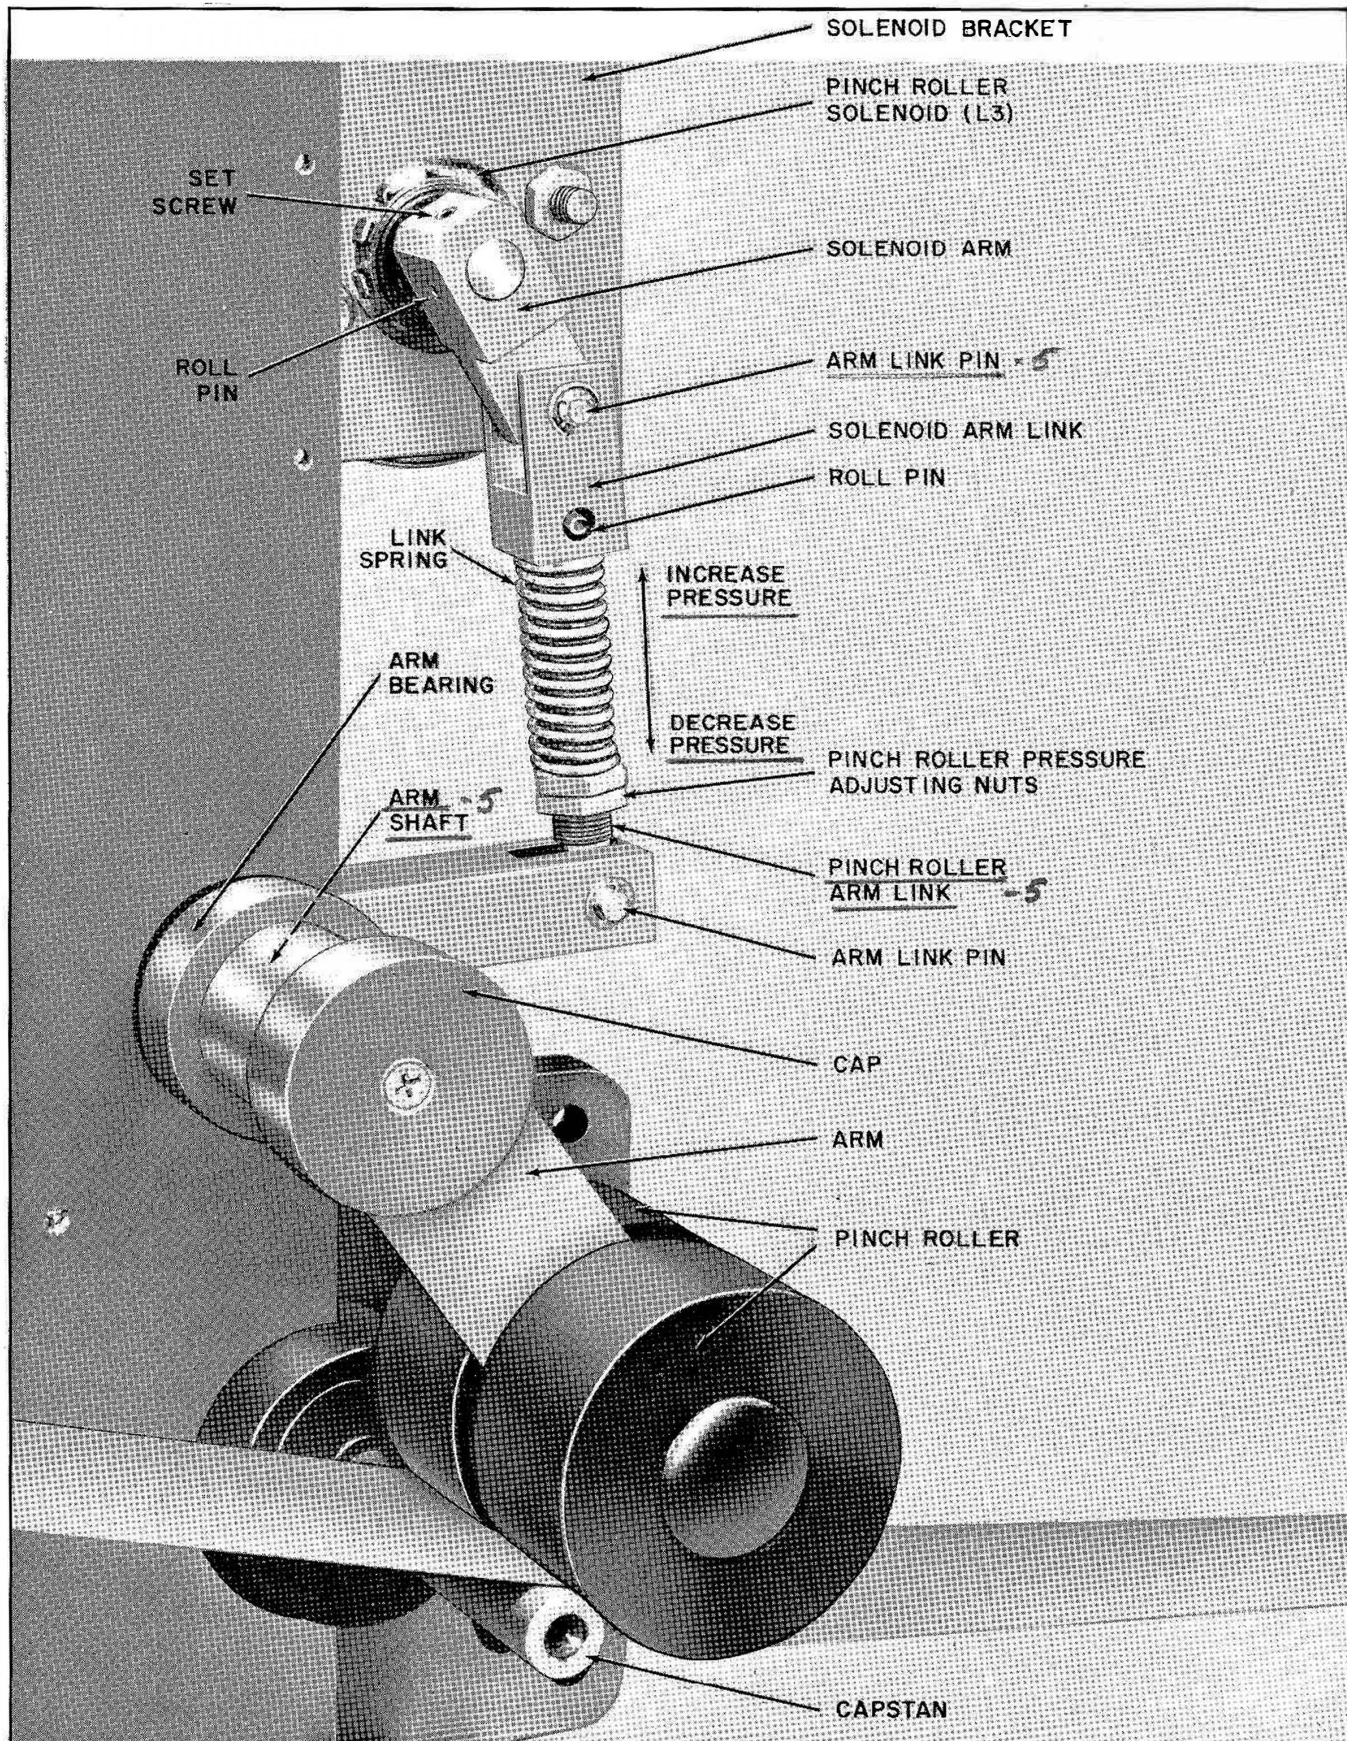

Figure TTP-4. Capstan Solenoid Linkage Assembly
3. Using a small length of string or tape attach a spring scale to the pinch roller arm (fig. TTP-4) at the clamp screw between the two rollers, and pull at a right angle to the arm until the rollers lift off the capstan. (Turn the rollers with light finger pressure to determine when the rollers lift off.)
4. The spring scale should indicate between 9½ and 10½ pounds of pressure; if not, move the two nuts on the spring coupled solenoid link, on the rear of the tape-transport panel (fig. TTP-4).
6. Check the position of the roll pin in the upper-end of the spring coupled solenoid arm link. When the pinch roller is energized, the roll pin should be approximately centered in the clearance hole (fig. TTP-4). If not, loosen the four socket-head screws that hold the solenoid bracket, and adjust the solenoid bracket until the roll pin is centered. After the pin is centered retighten the four socket-head screws.